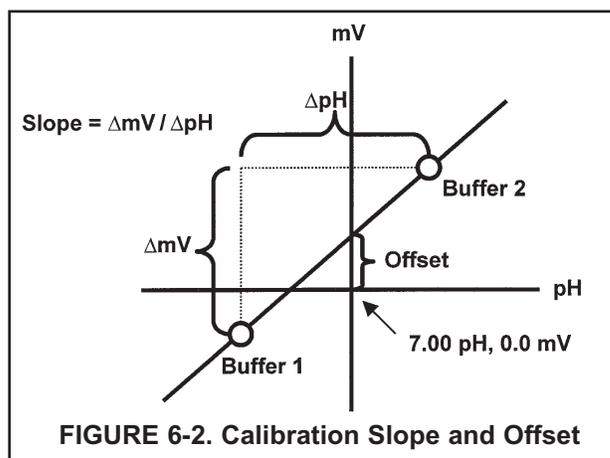

FIGURE 6-2. Calibration Slope and Offset
3. **SLOPE AND OFFSET.** Once the analyzer successfully completes the calibration, it calculates and displays the calibration slope and offset. The slope is reported as the slope at 25°C . Figure 6-2 defines the terms.